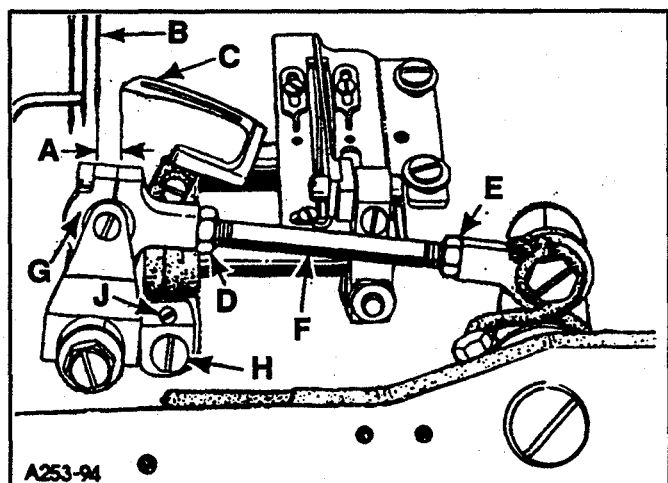
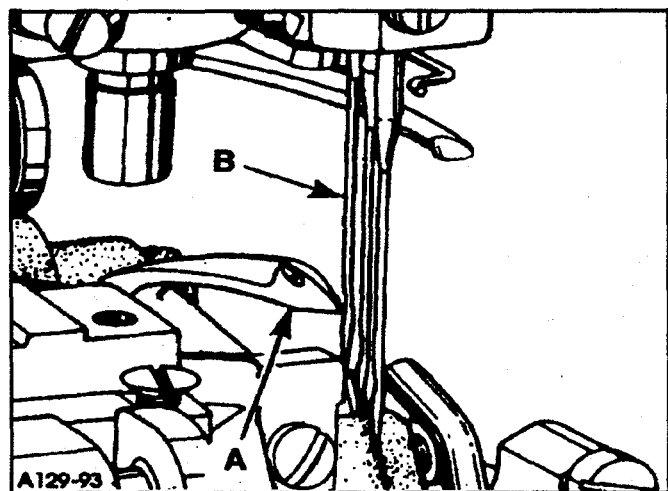

FIG. 9
FIG. 10
Insert a new needle of type and size required into right needle seat. Turn hand wheel in operating direction until looper is at its extreme right end of travel. Looper gauge (A, Fig. 9, see Table II for dimensions) is the distance between centerline of right needle (B) and point of looper (C).
**NOTE:** Be sure that the left ball joint (G) is in a vertical position and does not bind after adjustment.
While turning handwheel in operating direction, as the looper (A, Fig. 10) moves to the left its point should be set to brush but not pick at the REAR of RIGHT needle (B). Adjustment can be made by loosening screw (H, Fig. 9), turn stop screw (J) clockwise to move looper towards the rear, counterclockwise acts the reverse. It is suggested to hold looper towards the front while making this adjustment. Tighten screw (H) after adjustment has been made and recheck movement of looper.